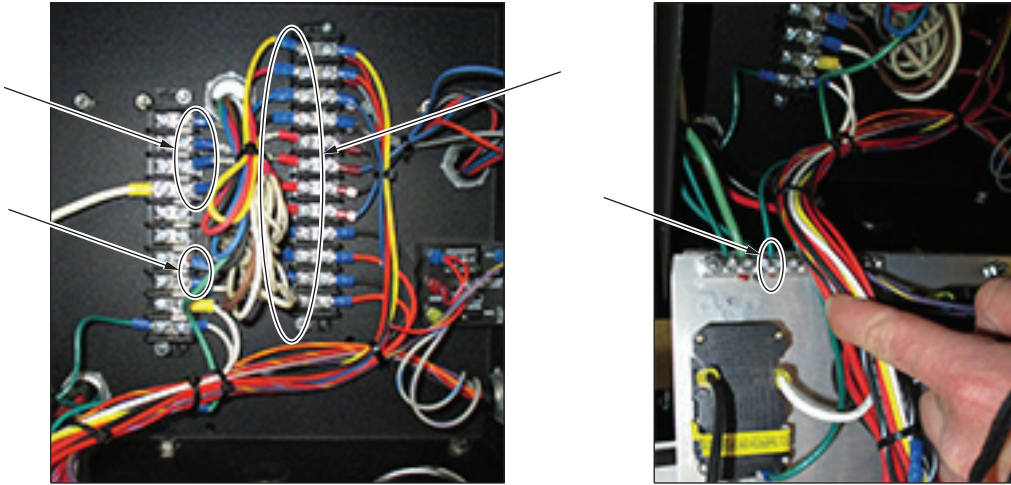

Figure 15 - Wires Passing Through Upper and Middle Strain Reliefs
8. See *Figure 15*. In control box, disconnect all wires passing through upper and middle strain reliefs.